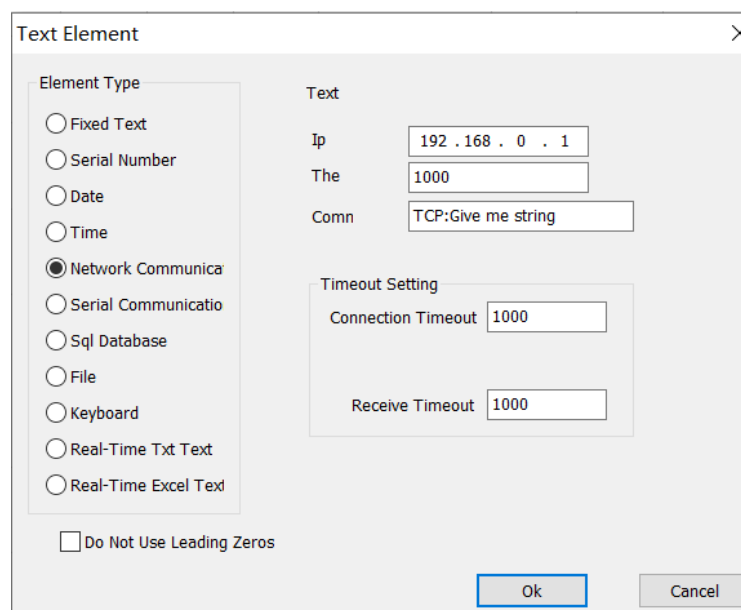

Fig.4-24 TCP/IP Network communication elements
**Notice:** The network interface in here is the network interface uses in TCP/IP agreement. When the user selected the “TCP/IP communication”, the parameter defines will display automatically in the dialog box, see the figure 4-24: